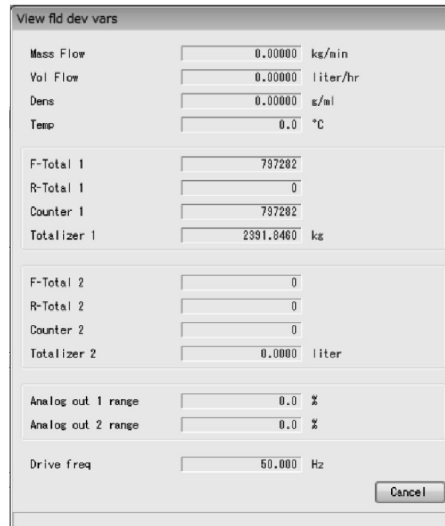

Fig.17
- ① Click "Process Variables (V)" in the menu at the top of the screen, and then select and click "View fld dev vars".
- ② The following window will be displayed (Fig. 17).